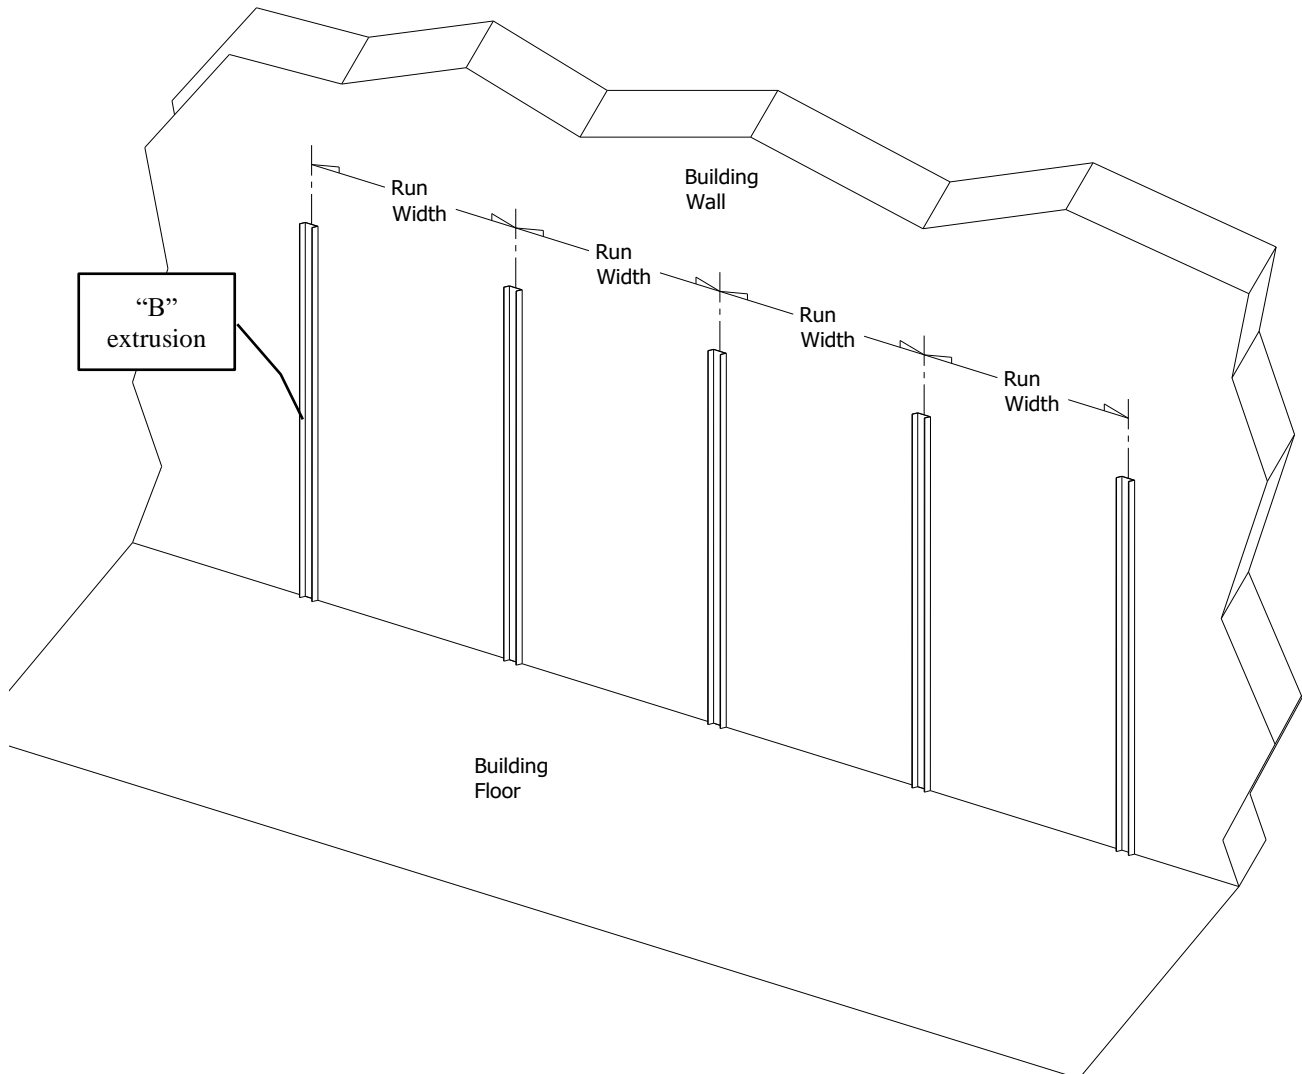

Figure 10
3. Fasten each appropriate “B” extrusion to the wall at the proper location using screws, either Tapcon anchors or #12 x 2” screws (Not Supplied) depending on the wall construction. See figure 10. You will need to pre drill the extrusion with a ¼” drill bit for each screw. We recommend at least 3 screws or Tapcons per extrusion.